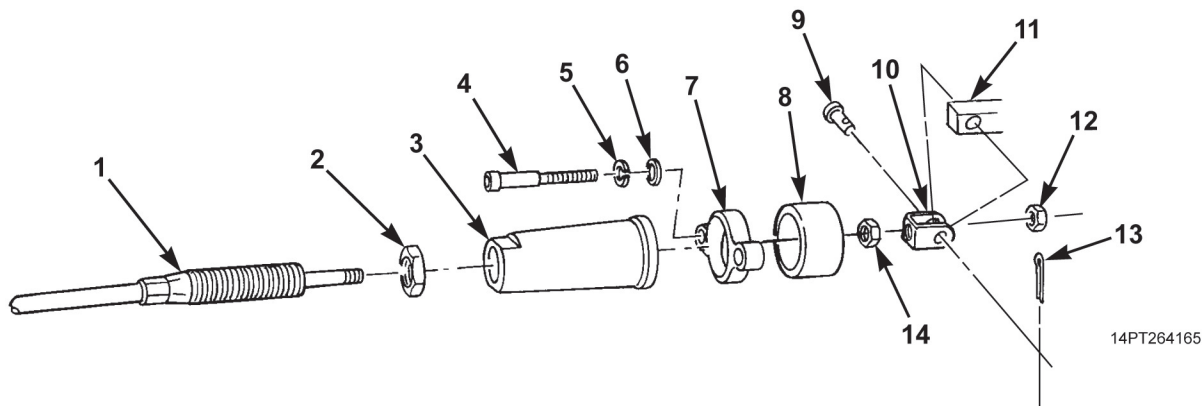

Figure 7. Hardware Installation.
1. Install nut (Figure 7, Item 14) onto cable (Figure 7, Item 1) same number of threads as removal.
2. Slide cable bracket (Figure 7, Item 10) onto cable (Figure 7, Item 1) and install nut (Figure 7, Item 12).
3. Position cable bracket (Figure 7, Item 10) onto hydraulic pump actuator (Figure 7, Item 11) and install clevis pin (Figure 7, Item 9) and cotter pin (Figure 7, Item 13).
4. Slide spacer (Figure 7, Item 8), screw bonnet (Figure 7, Item 3), and slide flange clamp (Figure 7, Item 7) over cable bracket (Figure 7, Item 10).
5. Install two screws (Figure 7, Item 4), flatwashers (Figure 7, Item 6), and washers (Figure 7, Item 5) on flange clamp (Figure 7, Item 7).
6. Slide jam nut (Figure 7, Item 2) onto cable (Figure 7, Item 1).
7. Tighten jam nut (Figure 7, Item 2) against flange clamp (Figure 7, Item 7).